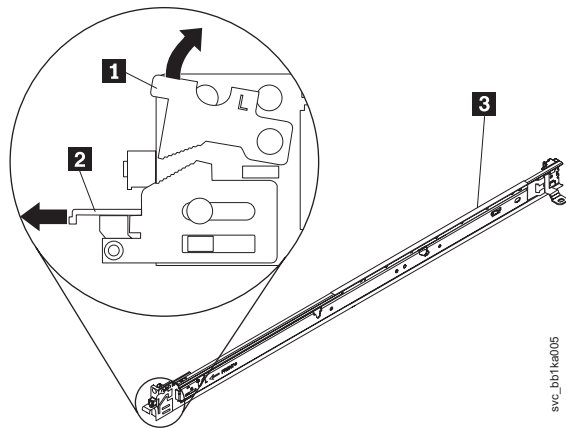

Figure 21. Installing the SAN Volume Controller 2145-CF8 slide rails on the rack
- a. Select one of the slide rails that is marked with either an R (right) or an L (left), as shown in Figure 21.